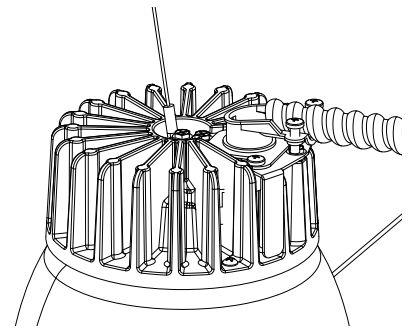

Figure 3
3. Place LED connectors into the casting opening and secure BX assembly to trim using the two retained screws. See Figure 3.